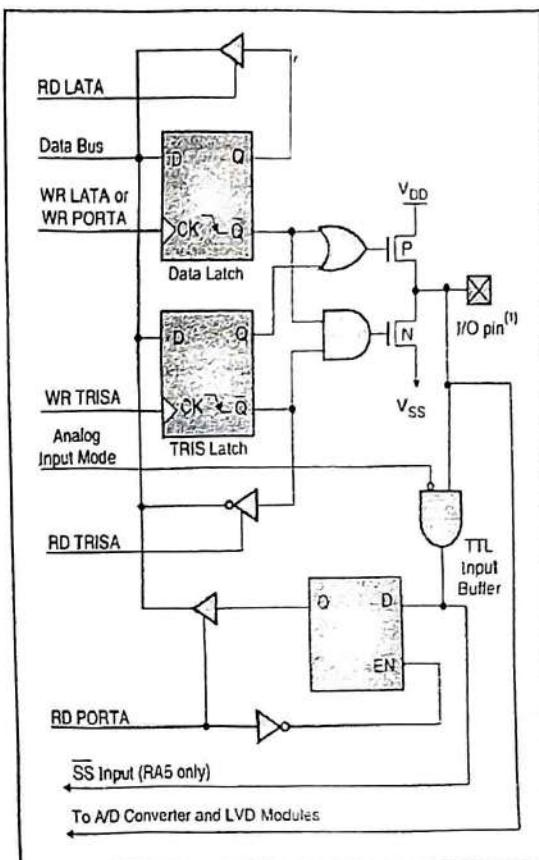

Fig. 4.2.1: RA3 : RA0 and RA5 pins block diagram
- As seen in the Fig. 4.2.1, the TRIS Latch is used to enable the 'P' or 'N' FET and thereby connecting the pin for input or output operation. Also the alternate functions of the pin are implemented by enabling a certain path through the gate.